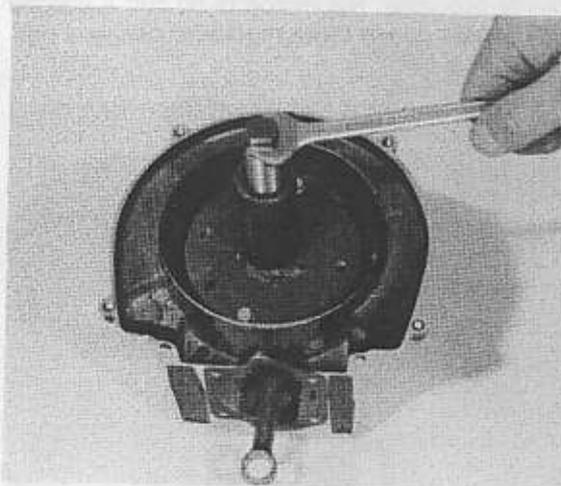

Fig. 27
2. Fix the tool, Part No. 735.888, in place of the stator and separate the two crankcase halves screwing on the screw A (Fig. 27).